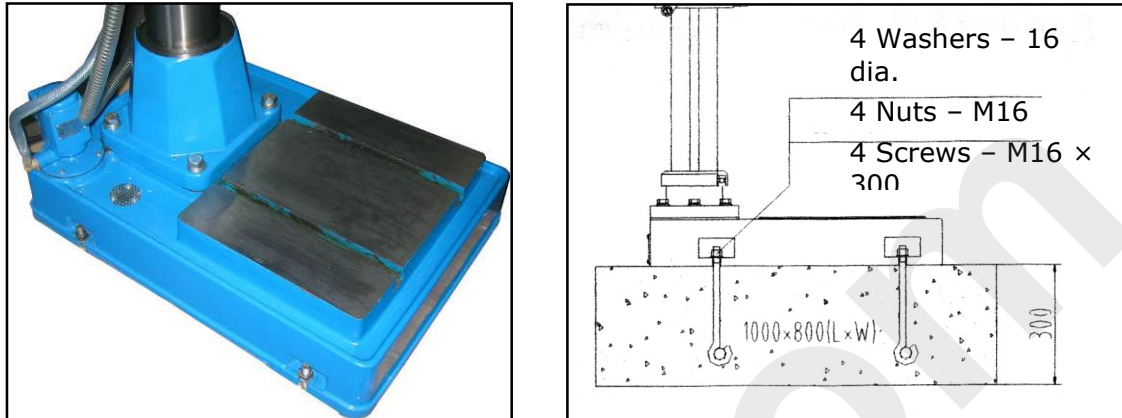

Figure 31 - Securing the machine to the floor.
2. Secure the machine to the floor (figure 31).